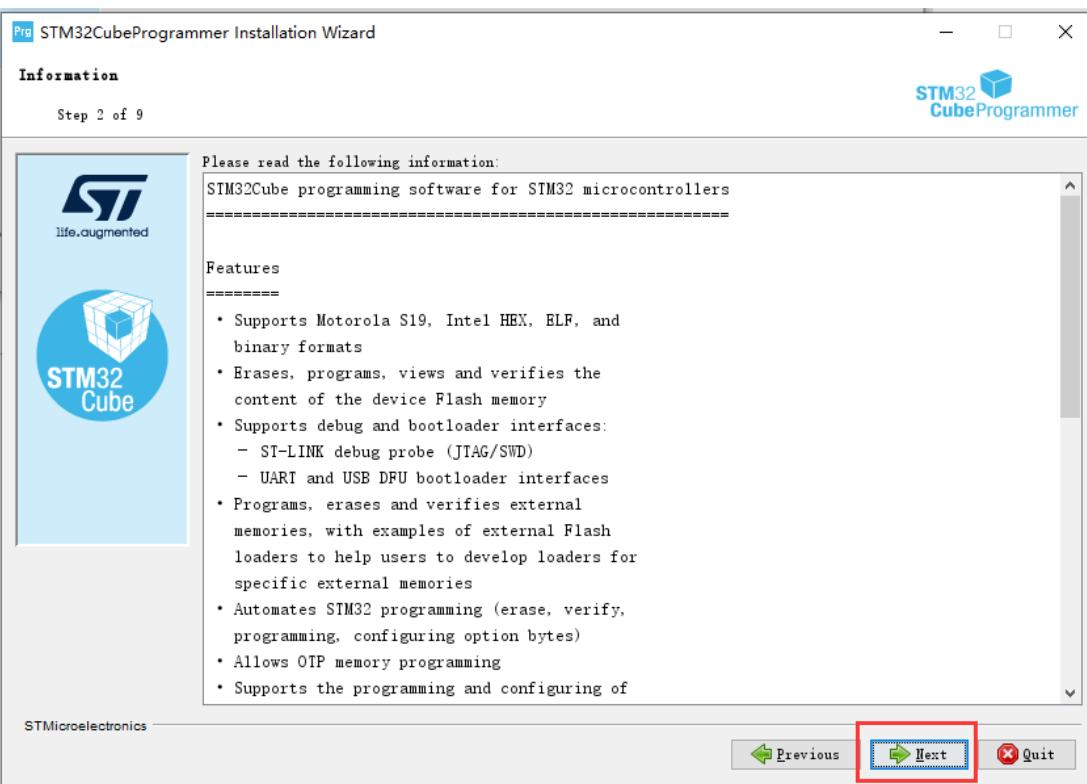

Figure 8-2
- 3) Go ahead and click Next as shown in Figure 8-2: